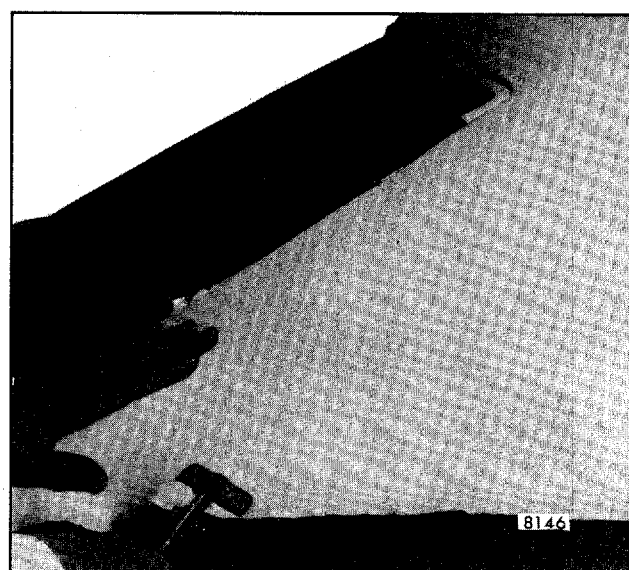

Fig. 8-46-Cementing Fabric Roof Cover to Roof Panel
10. Allow adhesive to become tacky; then hand stretch and "slick" cover in place. Fabric roof cover pliers or an equivalent tool may be used to help remove wrinkles as shown in Figure 8-46.